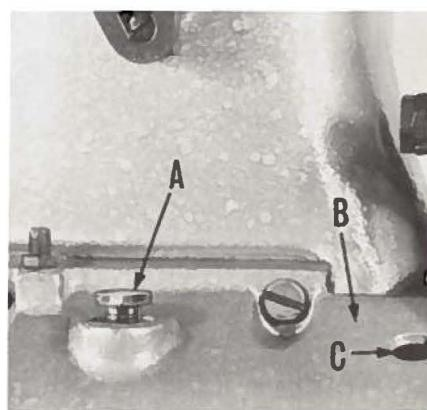

Fig. 12
On Styles 53100 B and C, synchronize the upper roller feed (E, Fig. 8) with the lower feed dog. This is accomplished by removing the plug screw (A, Fig. 12) from the top of the housing (B) located at the rear right side of the machine. Then, after noting the direction the shaft journaled in the housing rotates, loosen the clamp screws in the gear hub, made accessible by removal of the plug screw. Turning this back shaft in its operating direction causes the top roller feed to start turning sooner, and turning the shaft backward causes the puller roll to start turning later.